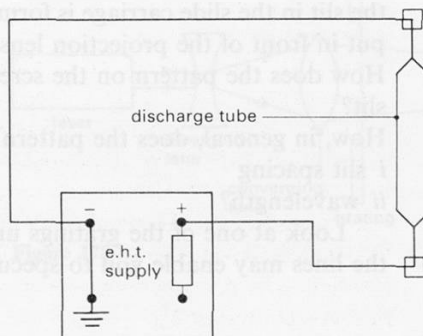

Figure J68
- J9b** Spectrum tubes (figure J68) or fluorescent tube. Make sure that the grating is parallel to the source. How many different wavelengths of visible light does the source emit? How many lines of the same colour are present?